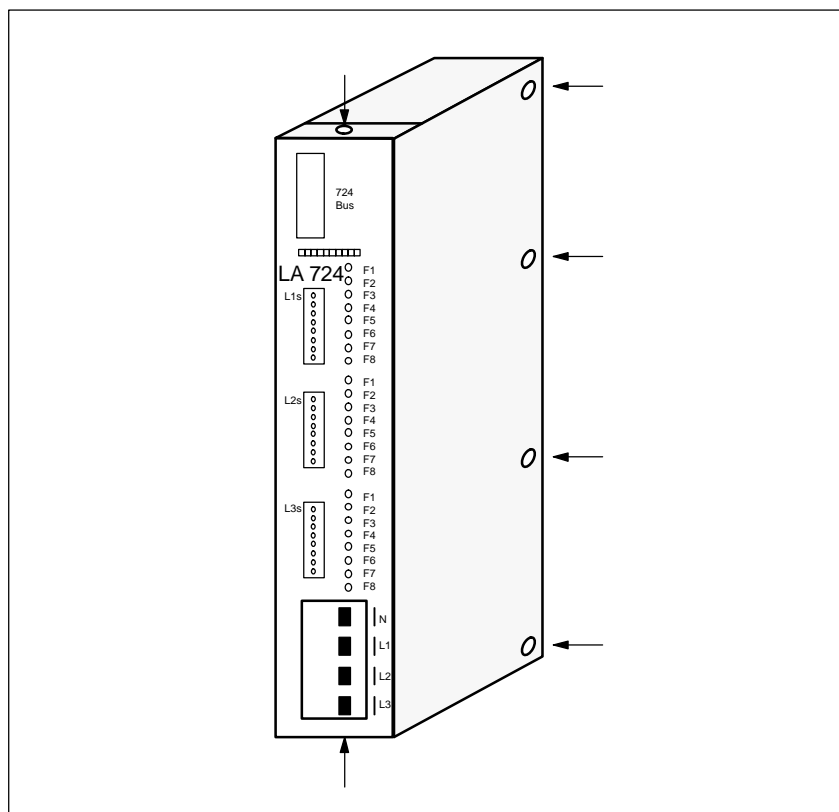

Figure 4-11 Opening the LA 724 for replacement of fuses
6. Unscrew the four screws on the right-hand side portion of the metal capsule. Unscrew one screw each on the top and bottom surfaces. Then remove the housing cover with front plate. See figure 4-11.